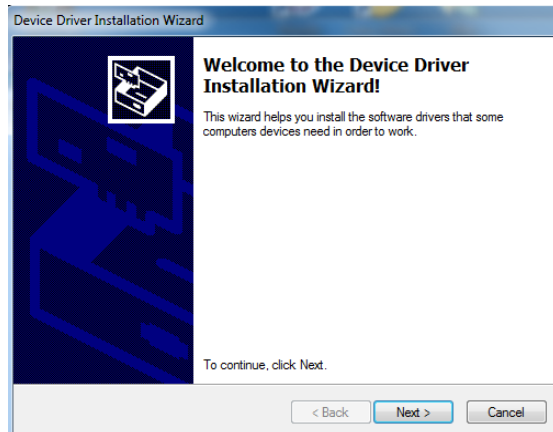
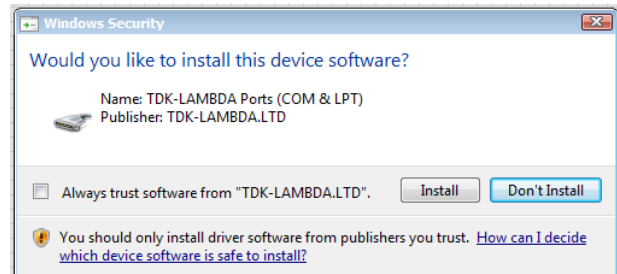

Fig 5
Fig 6
4. Select “Next >”, refer to Fig 5. Select “Install”, refer to Fig 6. Driver installation will start.